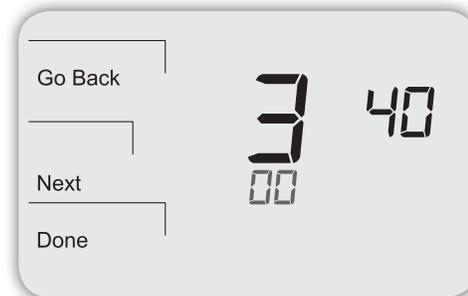

Figure 37.
6. Press **Next** to go to Service Menu 340 (see Fig. 37).